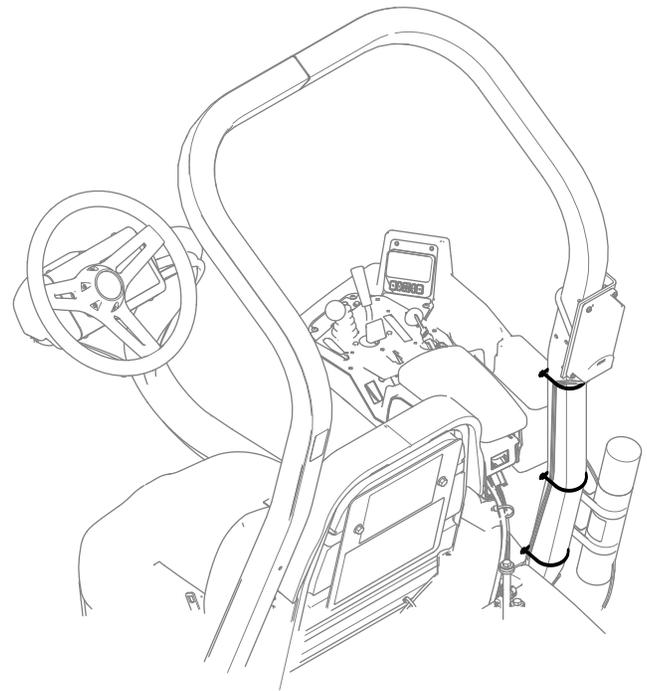

**Figure 10**
- 5. Route the wire harness down the roll bar and connect the wire-harness connector labeled P01 to the connector on the machine wire harness labeled P49 (Figure 10).
- 6. Secure the telematics harness to the main harness with a cable tie (Figure 10).